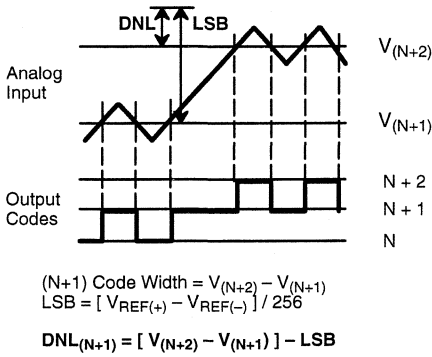

Figure 2. DNL Measurement On Production Tester
- 2 Tester measures code transitions by dithering the voltage of the analog input (V_{IN}). The difference between the measured code width and the ideal value ($V_{REF}/256$) is the DNL error (*Figure 2*). The INL error is the maximum distance (in LSB's) from the best fit line to any transition voltage (*Figure 3*).